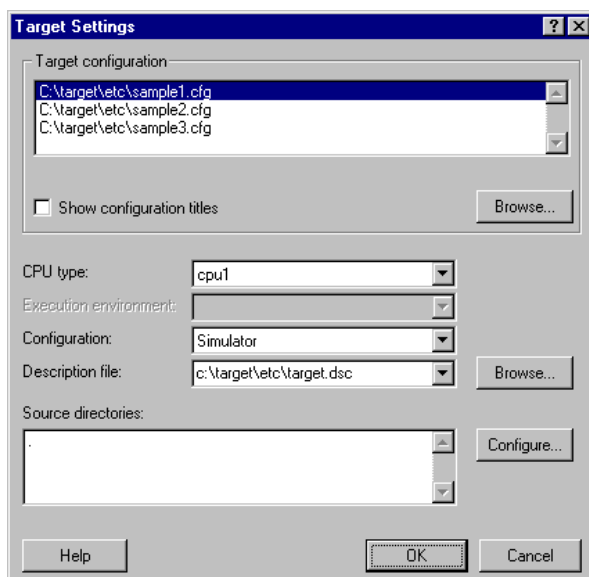

Figure 1-5: CrossView Pro Target Settings
- Select the Target | Settings... item from the menu. This option opens up the Target Settings dialog box as shown in figure 1-5.